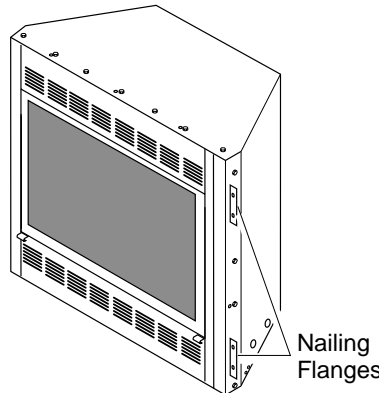

Figure 30 - Location of Nailing Flanges
7. Break off nailing flanges (see Figure 30) with hammer or pliers.